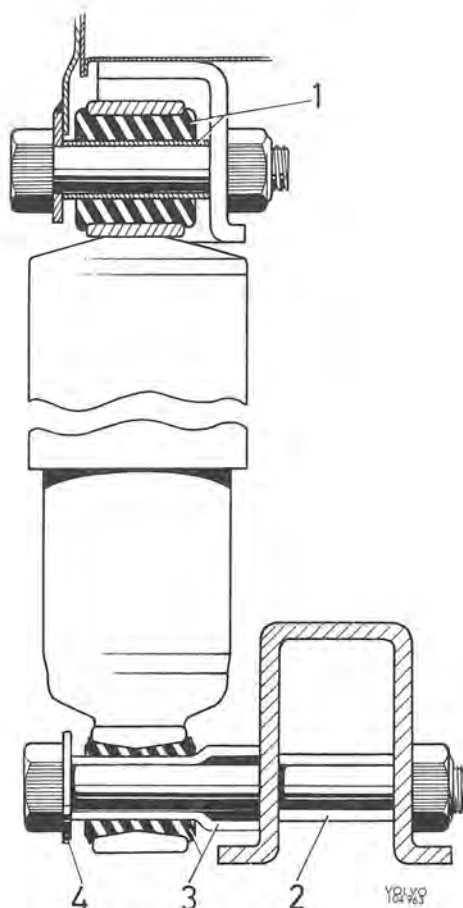

Fig. 7-9. Attachments, rear shock absorber
The rear shock absorber attachment (Fig. 7-9) consists of eyelets provided with rubber bushes (1 and 3) which cannot be dismantled. These absorbers are bolted at the top to the rear side-members and at the bottom to the support arms.
2. When fitting make sure that the spacing sleeve in the support arm has not been removed (2, Fig. 7-9). Fit and tighten the shock absorber. Fit the wheel and wheel nuts. Lower the vehicle. Put on the hub cap.
NOTE. Check that the spacing sleeve and washers are placed correctly, see Fig. 7-9. Remove the props from under the vehicle and lower it.